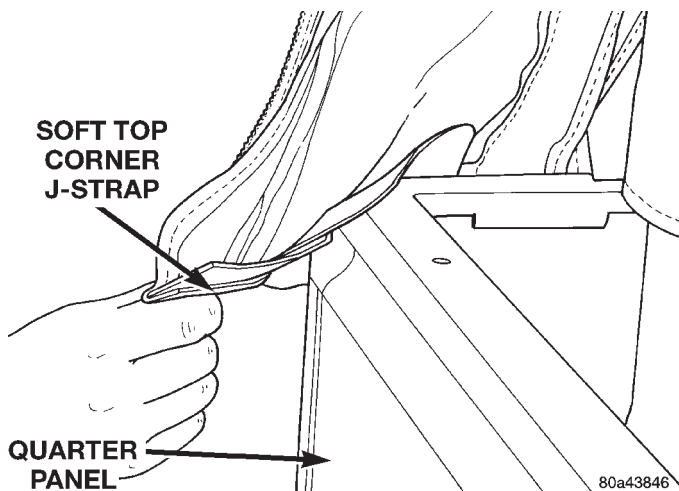

Fig. 46 Soft Top J-Straps
- (1) Disengage the retainers attaching the rear window to the body.
- (2) Remove rear window, unzipping from right to left.
- (3) Disengage J-straps at soft top rear corners (Fig. 46).
- (4) Unzip quarter windows, disengage J-strap and remove quarter windows.
- (5) Starting at the rear of the upper door opening frame and working forward, disengage drip rail retainers attaching the soft top to the door opening frame.
- (6) Unlatch top at windshield frame.
- (7) Lower the top to the rearward position.